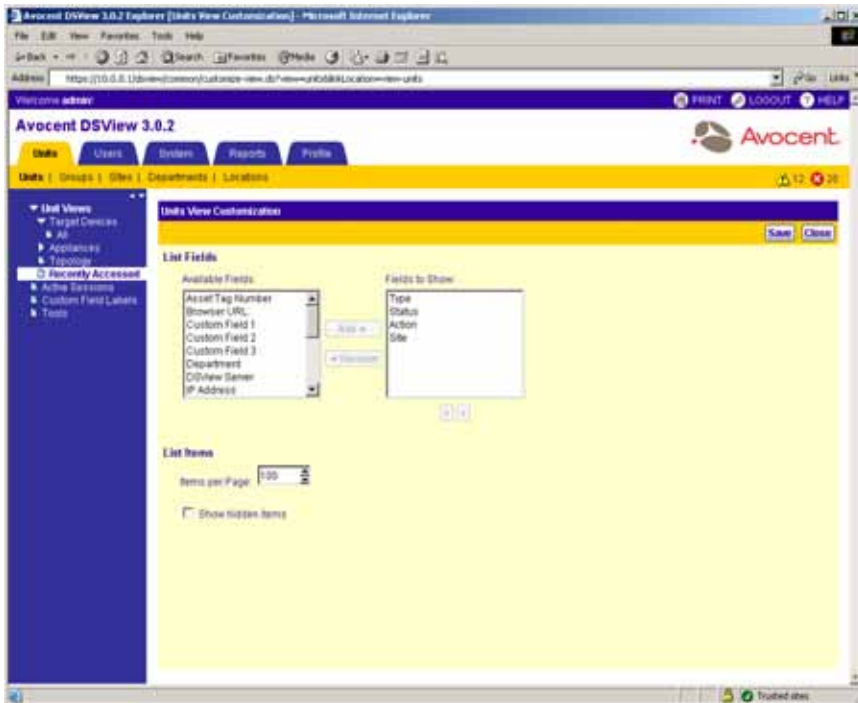

Figure 1.17: Customize Window Example (Units - Recently Accessed)
1. In a window containing a Customize link in the upper right corner, click the link. A View Customization window will appear. For example, Figure 1.17 contains the items that will appear when you select *Units* in the tab bar, *Units* in the top navigation bar, *Unit Views Recently Accessed* in the side navigation bar and *Customize* in the Units - Recently Accessed window.